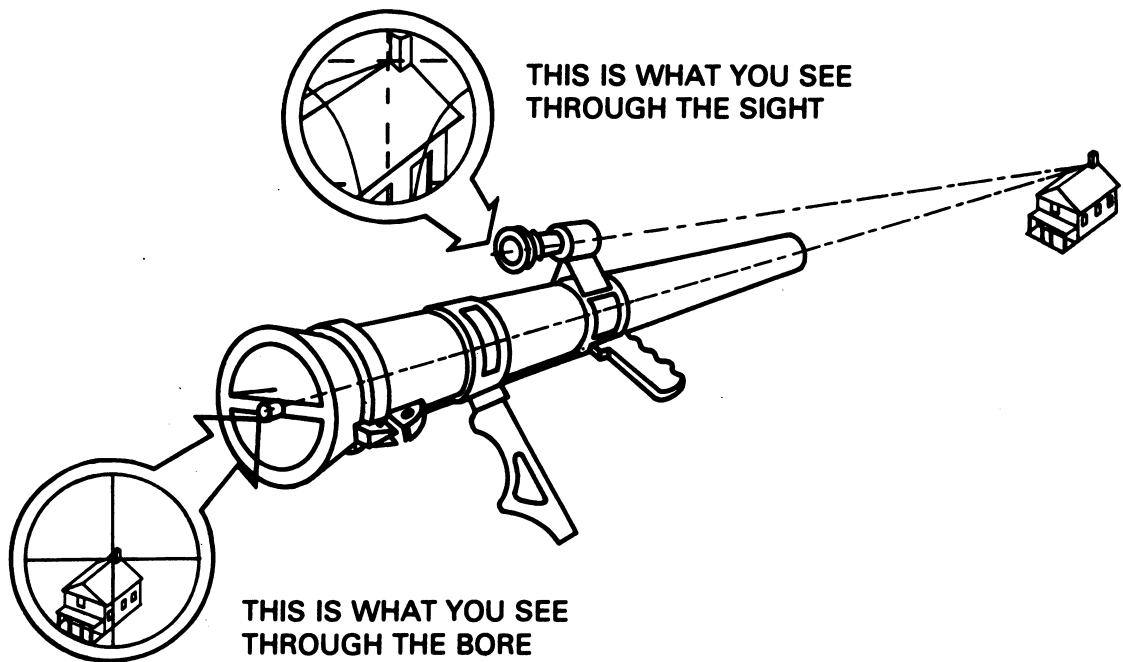

Figure 1
Within 5 minutes, aline both the sight and the bore so that the edge of the target is alined at the same point of intersection of both sets of crosshairs (fig. 1).
4. Look through the telescope and insure that the boresight cross of the sight reticle is alined on the aiming point at the same point of intersection of both sets of crosshairs. If the boresight is not alined, bring it to the aiming point by rotating the elevation and azimuth correction screws with either the screwdriver end of the combination wrench or a small screwdriver. Recheck the alinement through the bore and through the sight. When the sight and the bore are properly alined on the aiming point, the 90mm RCLR is boresighted (fig. 1).